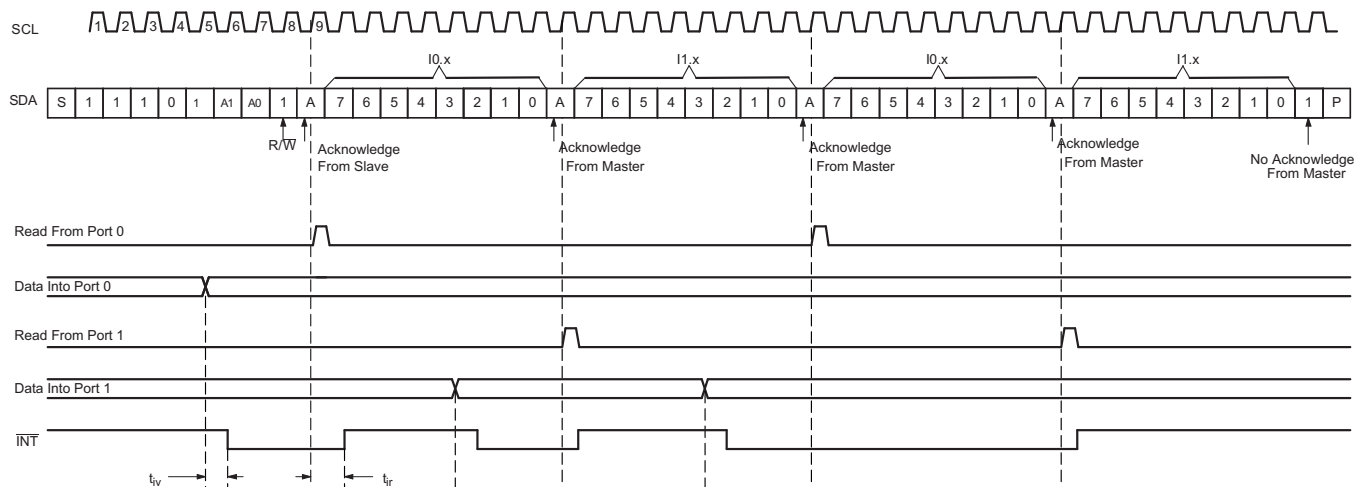

**Figure 32. Read from Register**
Figure 32 shows an example of reading a single byte from a slave register.
- This figure eliminates the command byte transfer, a restart, and slave address call between the initial slave address call and actual data transfer from the P port (see Figure 32 for these details).